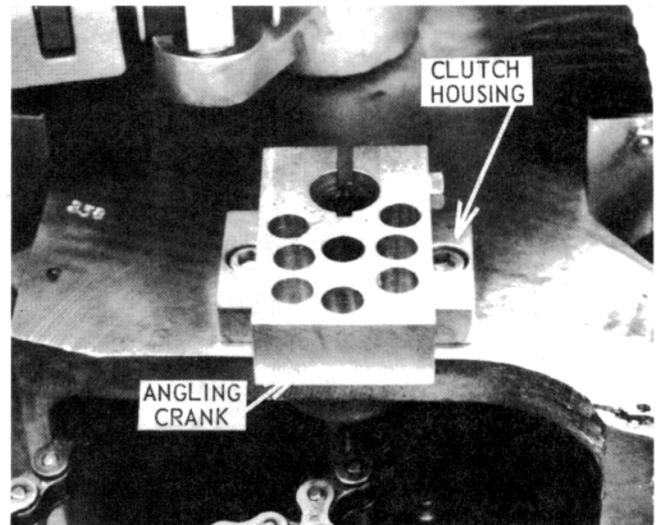

Figure 75 – Angling Crank, Angling Shaft Thrust Bearing, and Angling Shaft Clutch Housing
- 6.1.11 Remove the angling crank, angling shaft thrust bearing, and angling shaft clutch housing (see Figure 75).